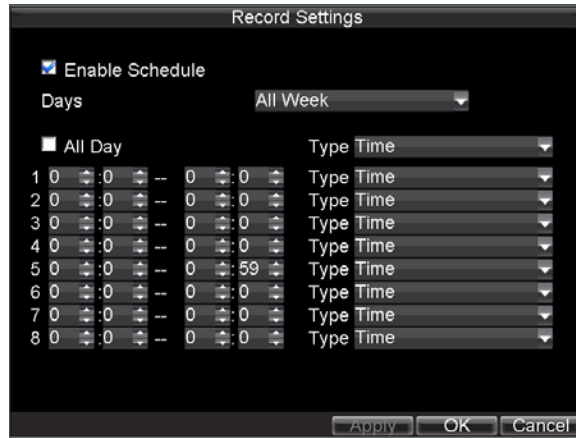

Figure 9. Edit Schedule Settings
18. Click *Edit* button to enter a new recording schedule, shown in Figure 9.